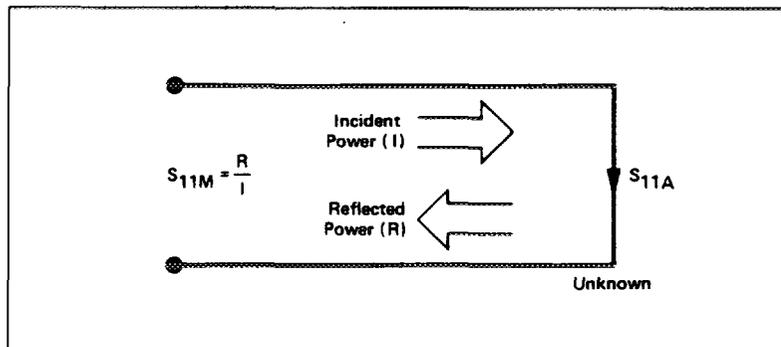

Figure 5-33. Reflection Coefficient
The reflection coefficient is measured by first separating the incident signal (I) from the reflected signal (R), then taking the ratio of the two values (Figure 5-33). Ideally, (R) consists only of the signal reflected by the test device (S11A).